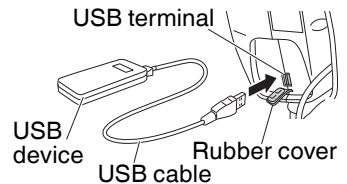

Fig. 14
3. Connect the USB cable. (Fig. 14)